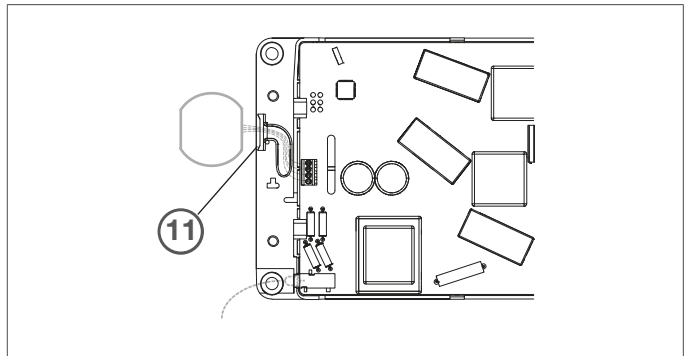

Fig. 7: Connect potential-free output
- 1 Remove the break-out opening (11) on the housing base (Bild 7).